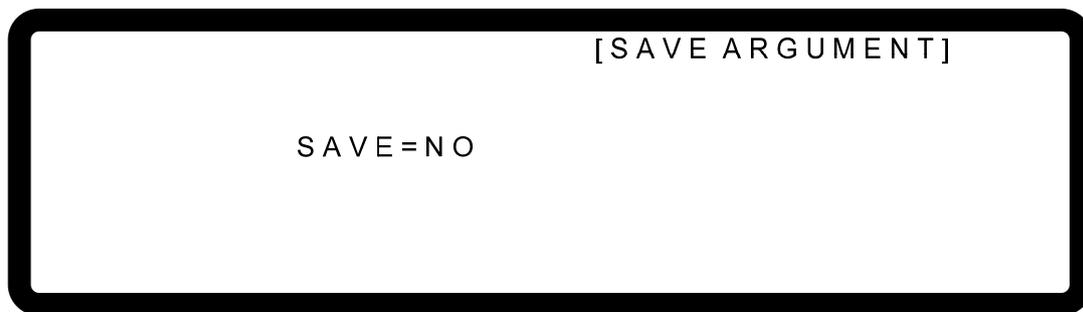

Figure 3-110
12. The current calibration is done once the above actions are completed and the DC Power Supply output will be turned off. To save the calibration data, press “SAVE” will prompt a confirmation page as Figure 3-110 shows. Press “1” or “Rotary” (⊙) to set SAVE=YES and press “ENTER” to save it. If there is no need to save it, press “EXIT” to return to the Calibration screen.